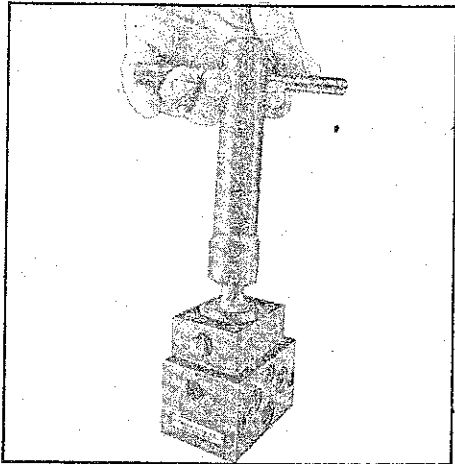

Fig. 5.
11. It is suggested to study sectional view or spare parts list before a Valve is dismantled and to understand better the working principles of the Valves. It is also suggested to leave the servicing part of the job to US, but even then, if you wish to dismantle Valves, please remove the Solenoid Coil first. It is most suitably fastened by a Nut, SW19 or SW22 to the upper part of the Valve. The Nut goes tight to avoid its loosening by itself, and therefore, it should be opened/tightened with Spanners only Please refer to Fig. 5.